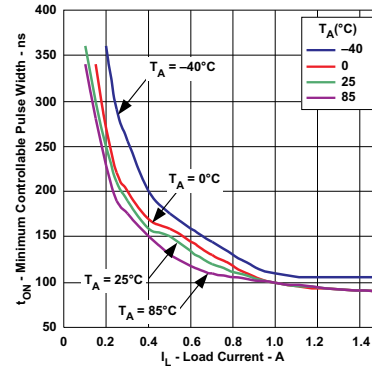

Figure 14. Minimum Controllable Pulse Width vs Load Current
(3) See Figure 14 for I_{SWx} peak current $< 1\text{ A}$.